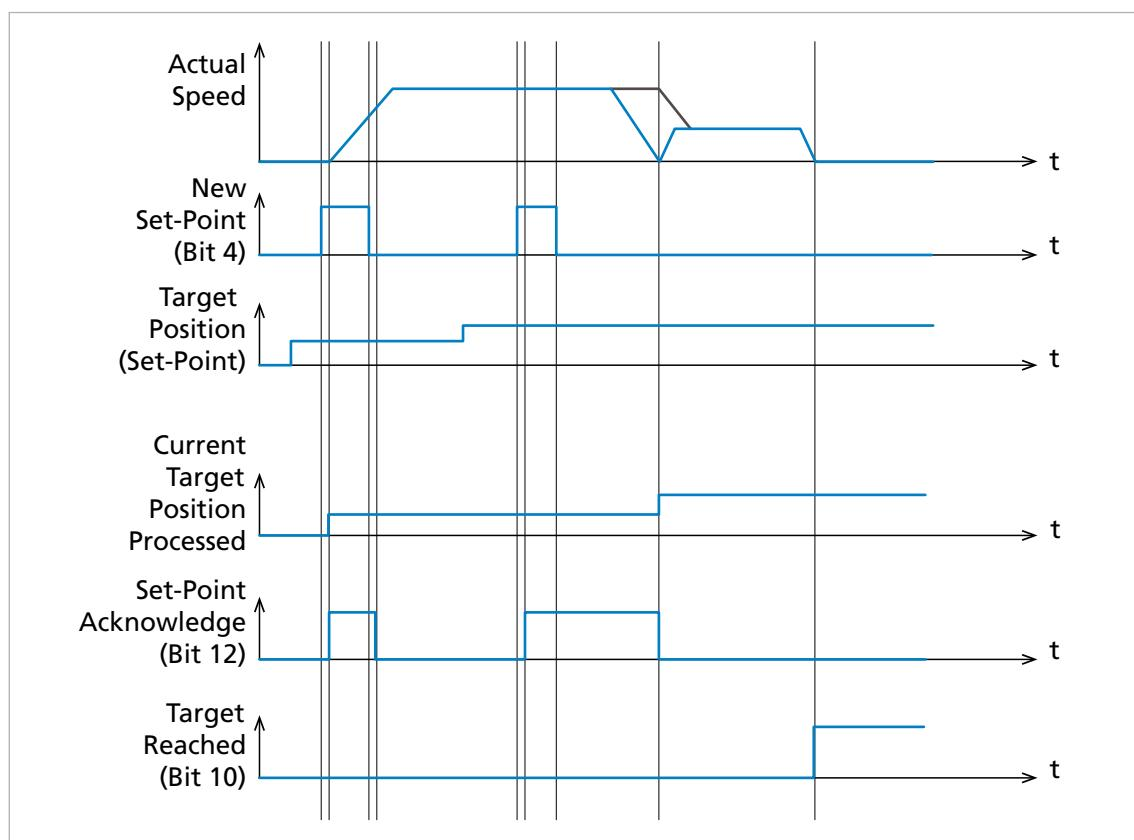

Fig. 29: Handshaking procedure for the set of set-point method
- Bit 9 of the controlword (Change on set-point) controls the dynamic behaviour during the transition from one set-point to another set-point (see Fig. 29):